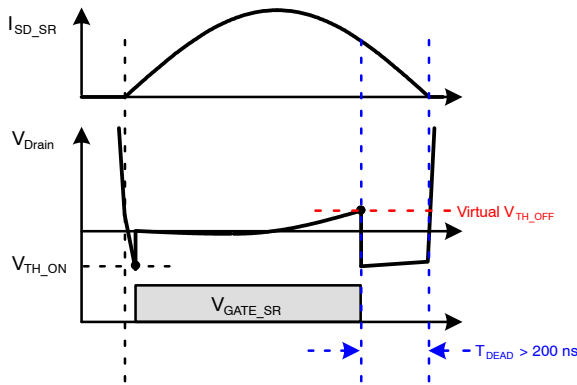
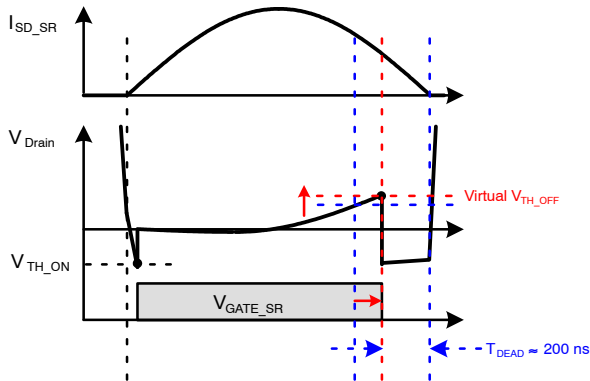

Figure 19. Premature SR Gate Turn-off
Figure 20. Dead Time Control to Maintain
In FAN6248HA(B) version, if a dead time T_{DEAD} is larger than 200 ns of t_{DEAD_H} , as shown in Figure 19, V_{offset} decreases by one step in next switching cycle. As a result, the dead time is decreased by increase of virtual V_{TH_OFF} , and becomes close to t_{DEAD_H} , as shown in Figure 20. If the dead time is smaller than t_{DEAD_H} , the dead time is increased by the virtual V_{TH_OFF} decrease. Thus, the dead time is maintained at around t_{DEAD_H} regardless of parasitic inductances.